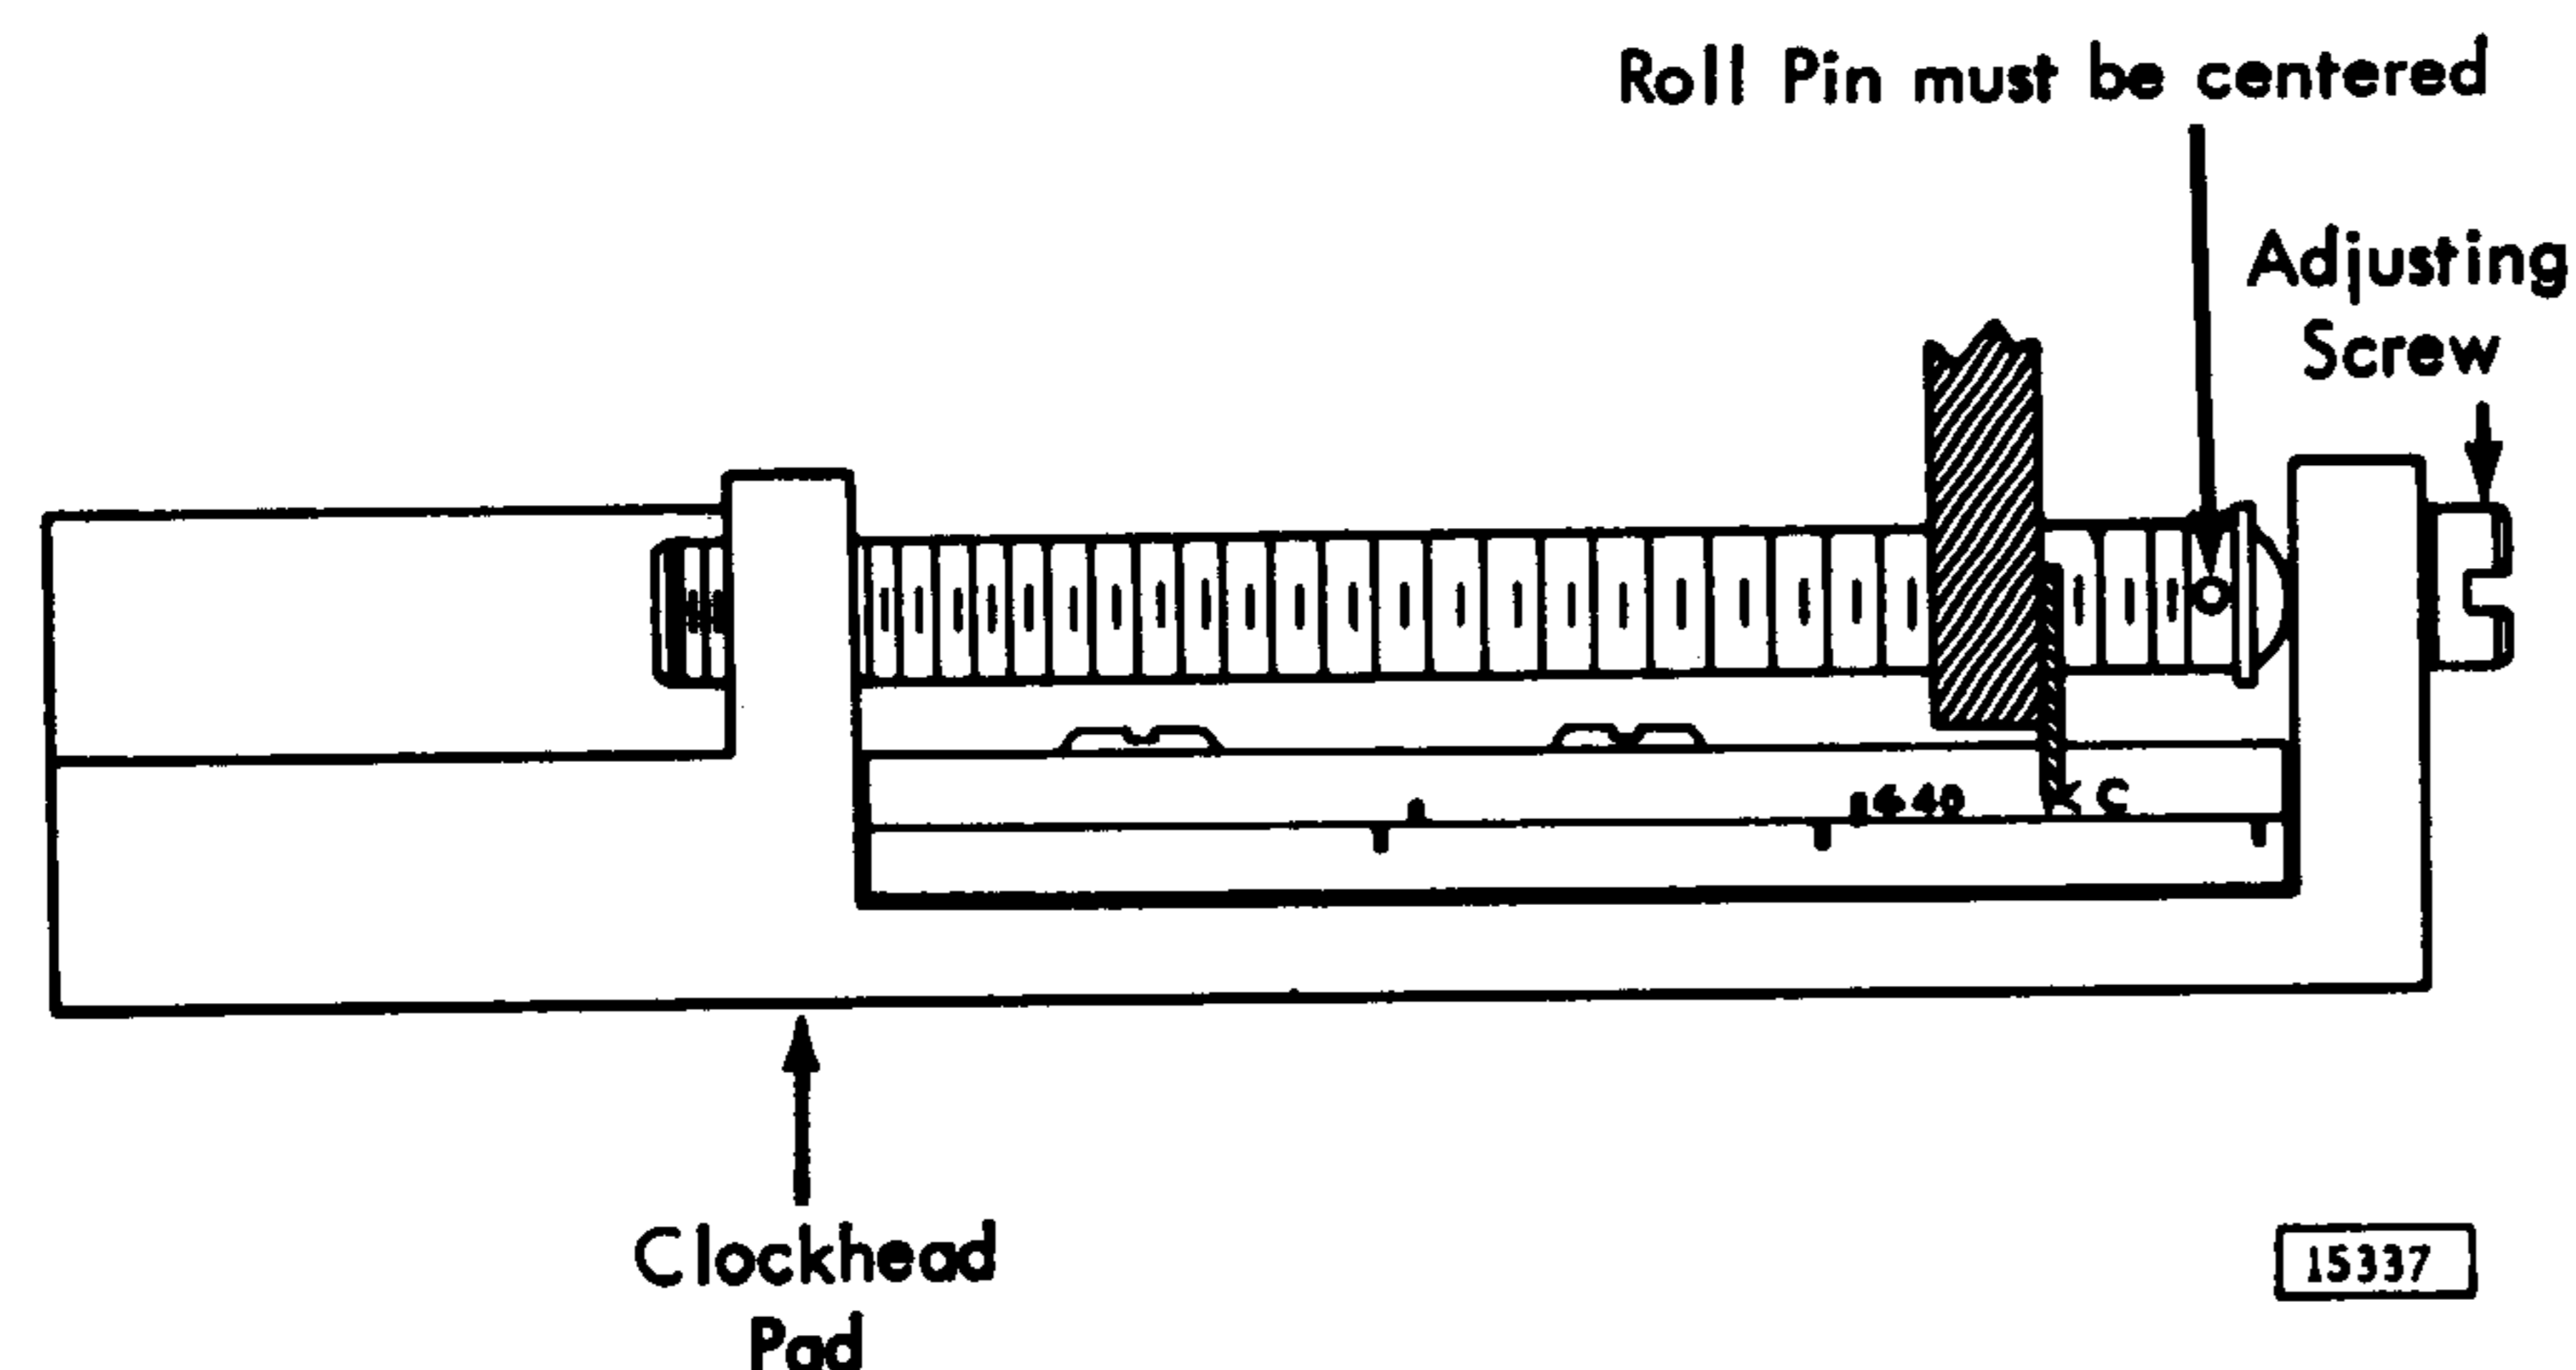

Figure 4-26. Clock Head Adjustment
2. Replace clock head assembly by slipping over locating pins. By means of the adjusting screw (Figure 4-26), adjust clock head as far in as possible and install rear mounting screw. Check for proper head-to-disk clearance (0.050 ± 0.020 -inch). Back off clock head to extreme out position and install front mounting screw.